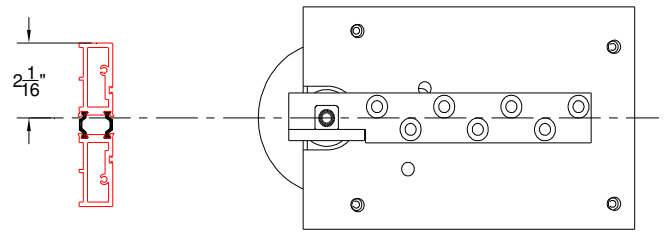

Figure 9:
1. Set the closer into the floor 2-1/16" from the back of the jamb and level (confirm with plumb line as stated in step 4). Closer is to be installed in line to the door and flush to the floor (Figure 9).